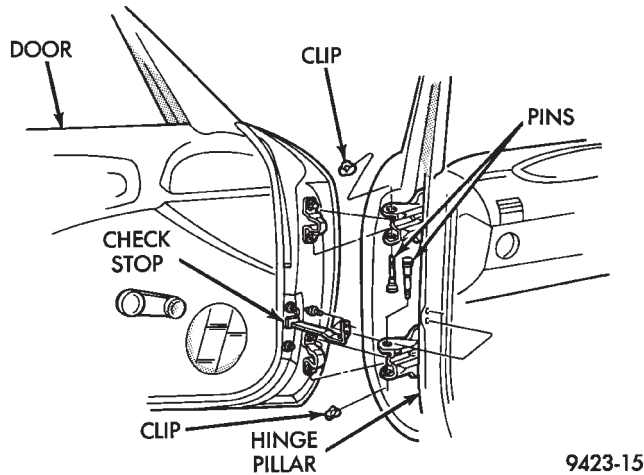

Fig. 11 Door—Typical
- (1) Open and support door on a suitable lifting device.
- (2) Disengage wire connector at hinge pillar.
- (3) Remove bolts holding door check strap to hinge pillar.
- (4) Remove clip holding hinge pin in lower door hinge.
- (5) Remove pin from lower hinge (Fig. 11).
- (6) Remove clip holding hinge pin in upper hinge.
- (7) Remove pin from upper hinge (Fig. 11).
- (8) Separate door from vehicle.